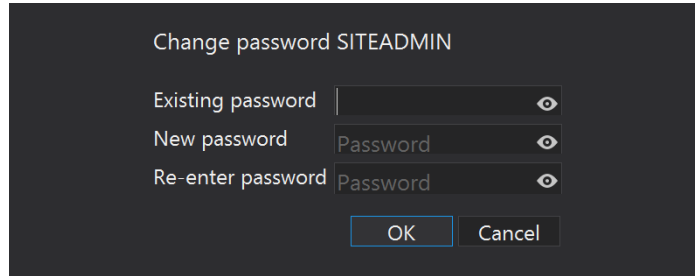

Figure 10-3: Change Password. Used to change existing passwords.
For security reasons, the ASEInspection Software user account passwords are usually configured to require changing periodically (see Section 10.7). When the time has come to change a password, the ASEInspection Software displays a notice on the login screen the next time the user attempts to log in. Both supervisor accounts and Operator accounts may change passwords at any time sooner than the mandatory time limit. The Change Password screen appears as in Figure 10-3.
- The Change Password screen opens, shown in Figure 10-3.